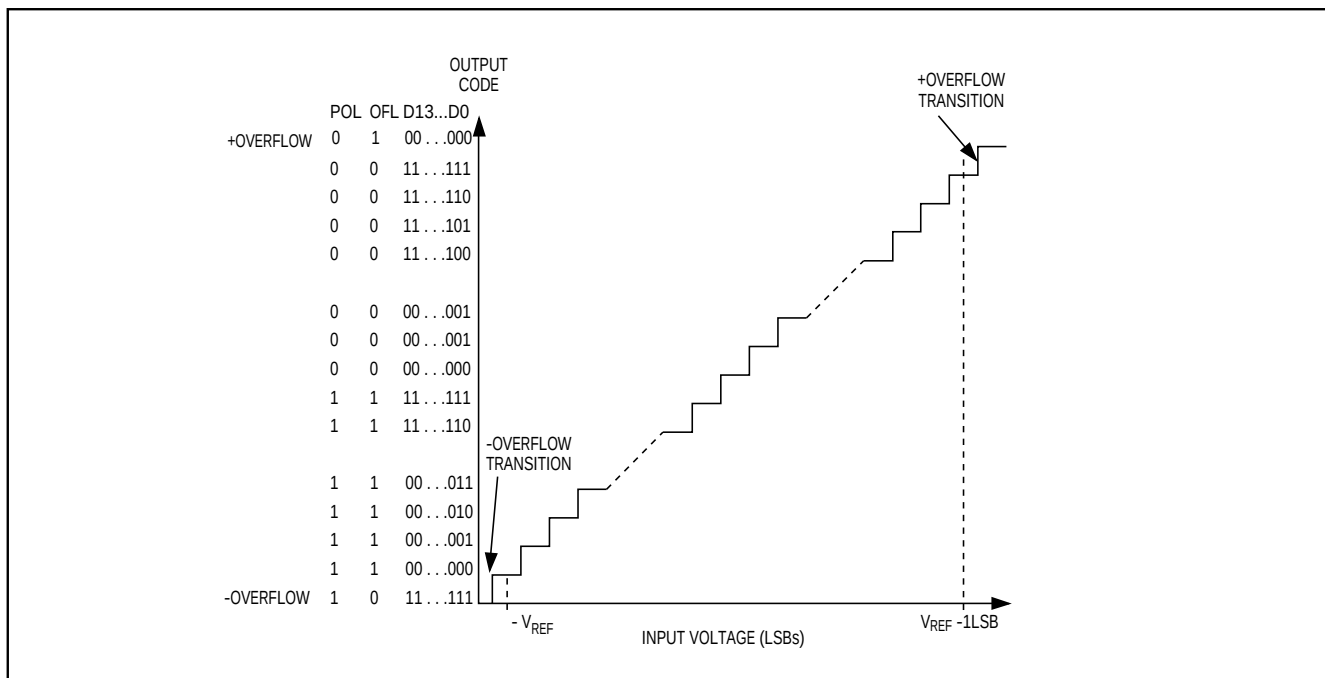
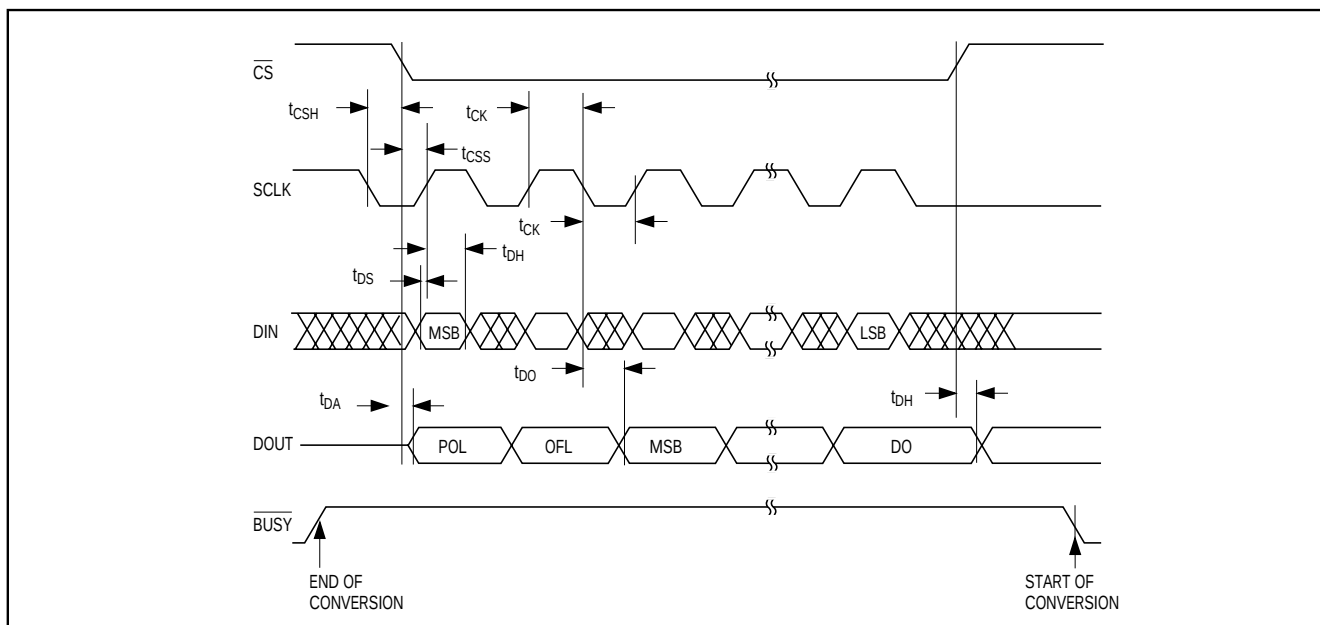

Figure 4. Differential Transfer Function
Figure 6. Detailed Serial-Interface Timing
The output data from the MAX110/MAX111 is arranged in twos-complement format (Figures 4, 5). The sign bit (POL) is shifted out first, followed by the overrange bit (OR), and the 14 data bits (MSB first) (see Figure 6). The MAX110 operates from $\pm 5V$ power supplies and converts low-frequency analog signals in the $\pm 3V$ range when using the maximum reference voltage of $V_{REF} = 3V$ ($V_{REF} = V_{REF+} - V_{REF-}$). Within the $\pm 3V$ input range, greater accuracy is obtained within $\pm 2.5V$ (see *Electrical Characteristics* for details). Note that a negative input voltage is defined as $V_{IN-} > V_{IN+}$. For the MAX110, the absolute voltage at any analog input pin must remain within the $(V_{SS} + 2.25V)$ to $(V_{DD} - 2.25V)$ range.
Data is transferred into and out of the serial I/O shift register by pulling $\overline{CS}$ low and applying a serial clock at SCLK. This fully static shift register allows SCLK to range from DC to 2MHz. Output data from the ADC is clocked out on SCLK’s falling edge and should be read on SCLK’s rising edge. Input data to the ADC at DIN is clocked in on SCLK’s rising edge. A new conversion begins when $\overline{CS}$ returns high, provided the MSB in the input control word (NO-OP) is a 1 (see *Using the MAX110/MAX111 with MICROWIRE, SPI, and QSPI Serial Interfaces*). Figure 6 shows the detailed serial-interface timing diagram.